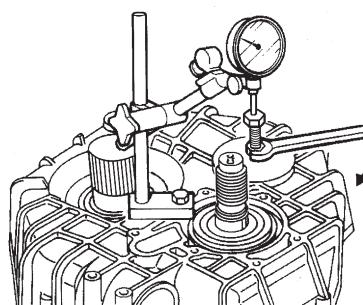

FIG. 5-5b
- e) Adjust the dial indicator needle on top of the bolt head and «0» to dial indicator (Fig. 5-5b).
- f) Screw hexagon nut carefully against housing (intermediate shaft moves up) until bearing clearance is overcome (Fig. 5-5b).